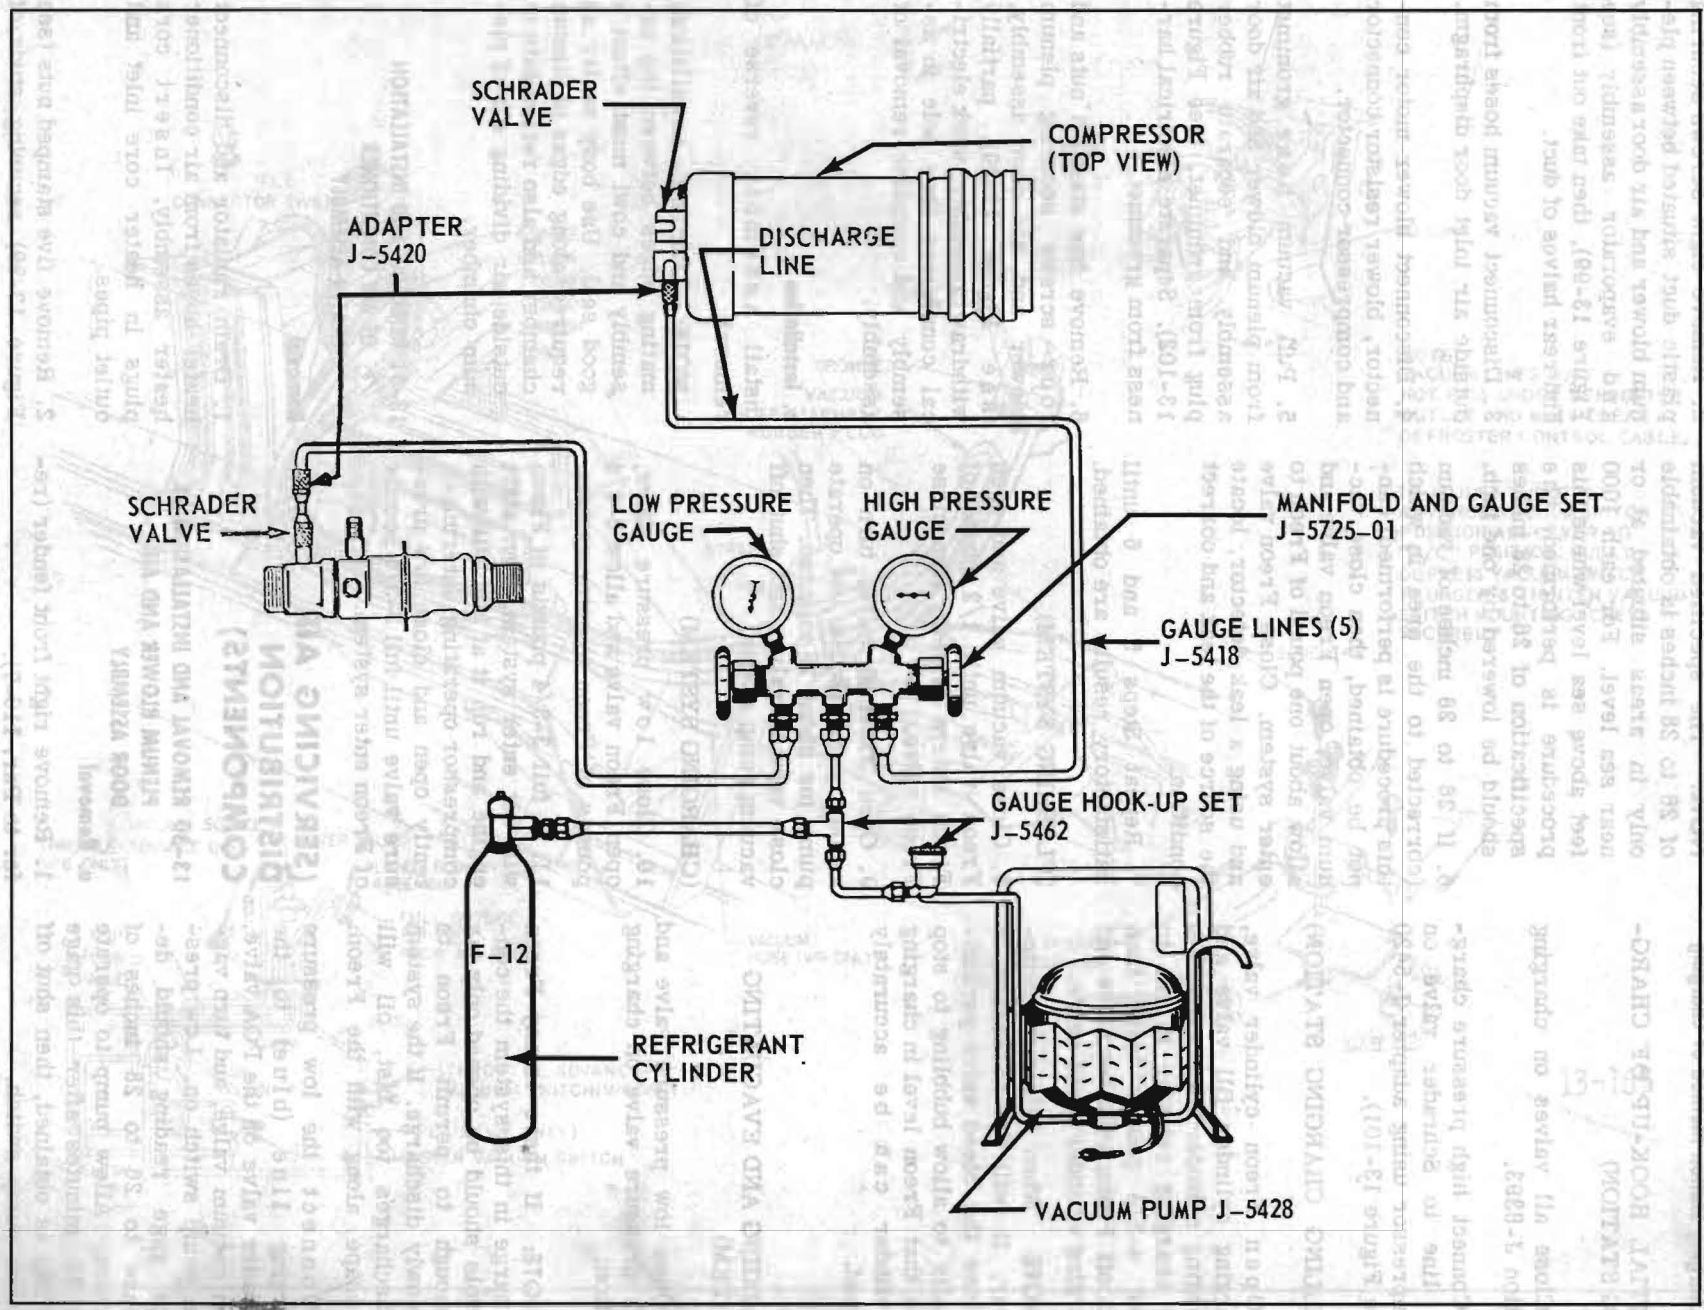

Figure 13-101—Charging Air Conditioner System
2. Interconnect vacuum pump (J-5428), manifold and gage set (J-5225-01), gage hook-up set (J-5462), gage adapters (J-5420), five gage charging lines (J-5418) and refrigerant-12 cylinder with air conditioning system (see Figure 13-101). Be sure all valves are closed.
2. Connect high pressure charging line to Schrader valve on compressor using adapter J-5420 (see Figure 13-101).